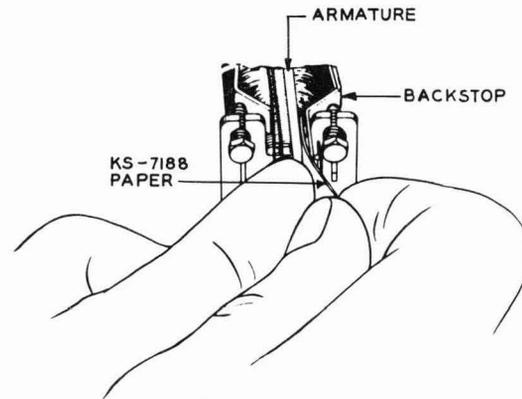

Fig. 53 – Method of Cleaning Front and Back Stops on B-, G-, and J-type Relays
7.15 Clean the front and back stops with a piece of KS-7188 paper as shown in Fig. 53 while holding the armature operated or unoperated as required.